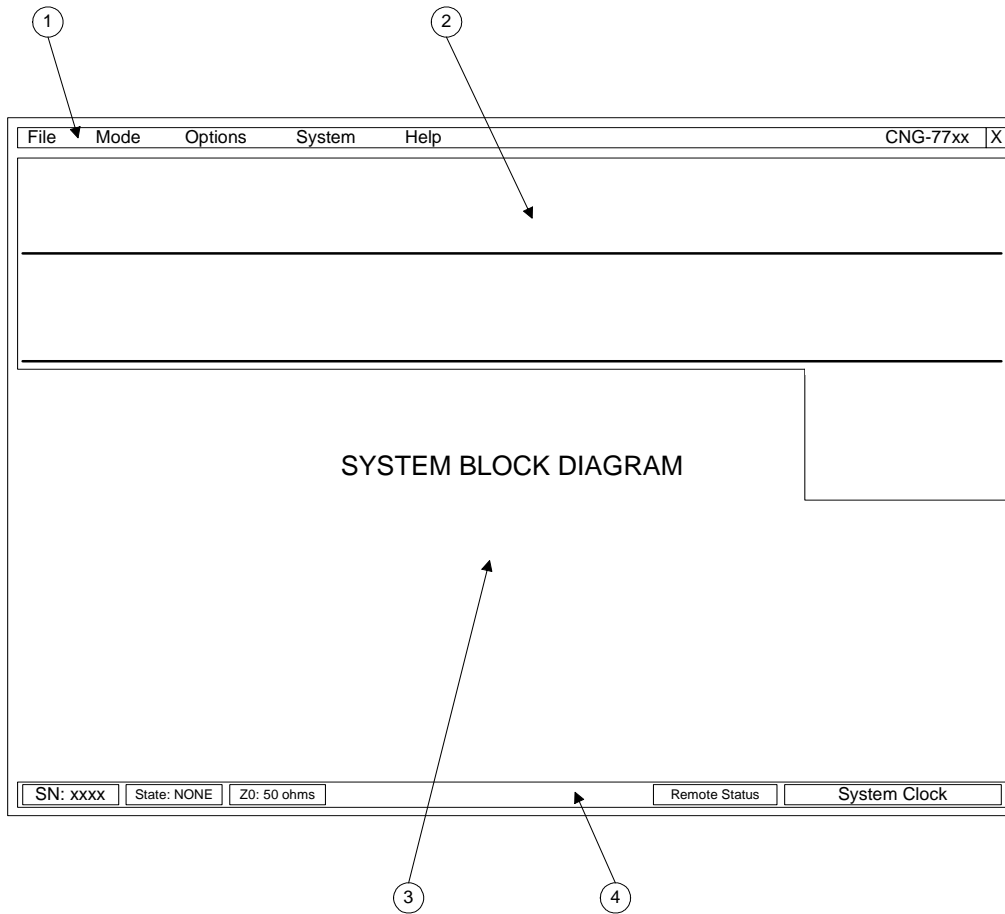

Figure 3-1: Main Display Layout illustrating the four major display sections for the CNG Front Panel Display
The display area is partitioned into the following four (4) major sections as shown in Figure 3-1: